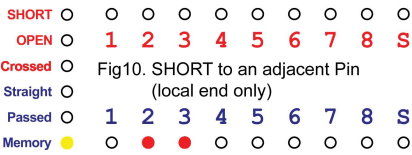

Fig10. SHORT to an adjacent Pin (local end only)
a) A short was found, at the local end within the connector, where no connection existed before (Fig10.).